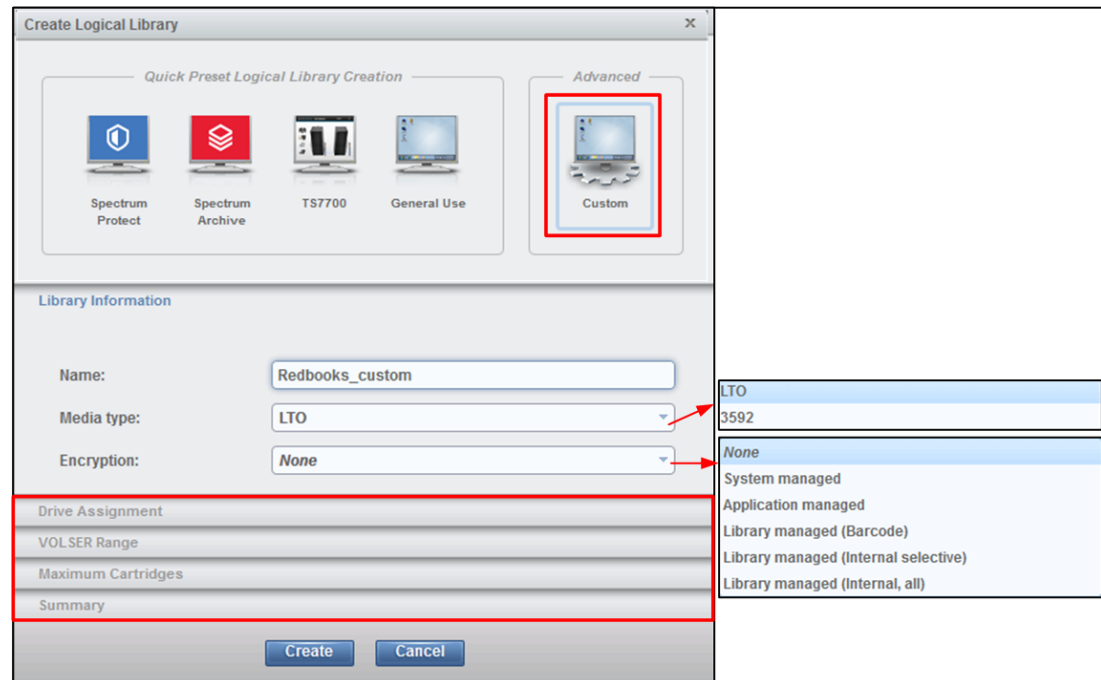

Figure 4-140 Custom logical library
1. Select the number of drives and slots to use for the logical library that you are configuring. Figure 4-140 shows the initial menu after you select **Custom**. Additionally, you can select the drive assignments, VOLSER range, maximum cartridges, and summary.